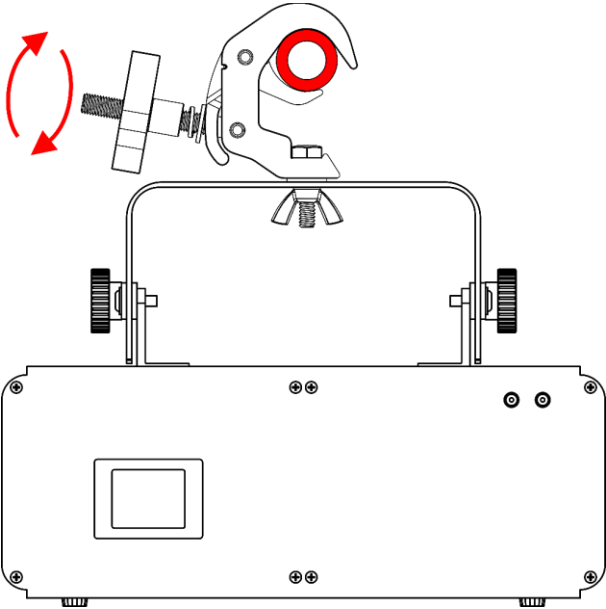
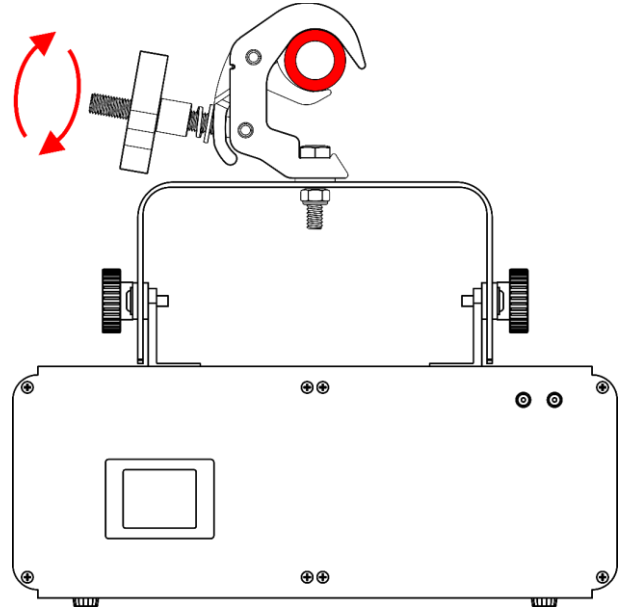

Fig. 07
Fig. 08
05) Put the device, with the installed load, around a tube (\varnothing 48–51 mm). See Fig. 07 or Fig. 08.